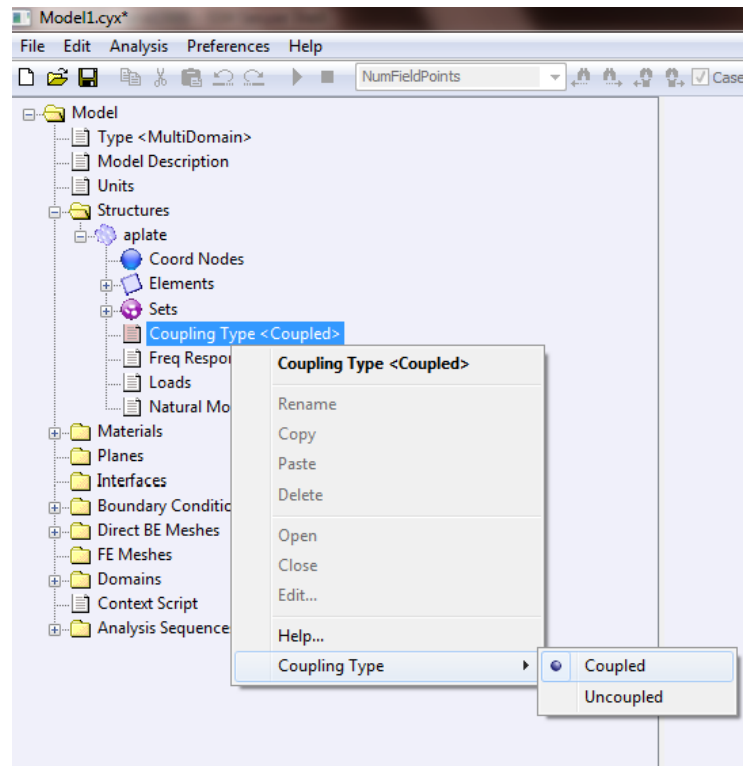

Figure 6.4 Coupling type.
- **Set coupling type.** Select: **Model** → **Structures** → *<Structure Mesh Name>* → **Coupling Type**. Right-click and choose the coupling type from the two choices available: **Coupled**, or **Uncoupled**. Refer to Figure 6.4. Note: Select the structure that is going to be used to apply the structure velocity boundary condition.